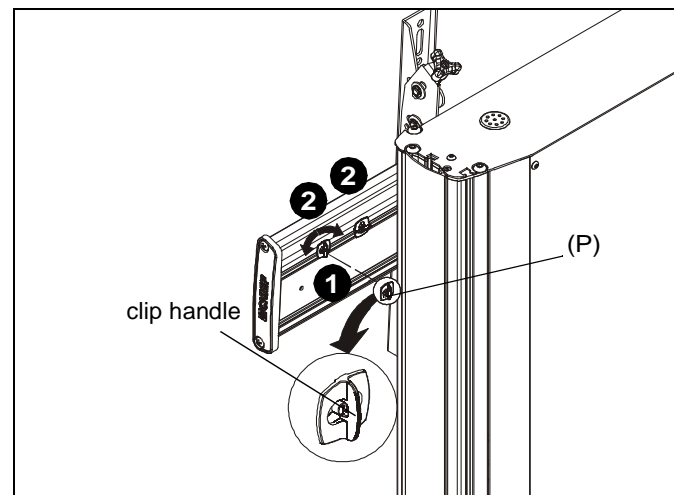

Figure 14
1. Place FCA clip (P) into groove on back of Fusion mount with clip handle in a vertical position. (See Figure 14)
2. Rotate FCA clip (P) 90° in either direction until clip handle is in a horizontal position. (See Figure 14)